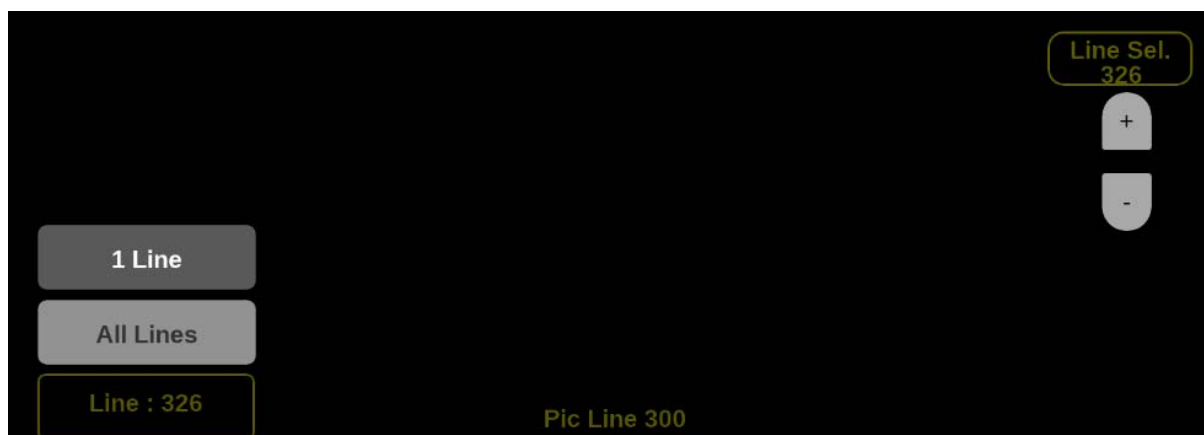

Figure 118: CIE on-screen tools – Line Select
1. Select the **Lines** button at the bottom of the application. (See Figure 118.)